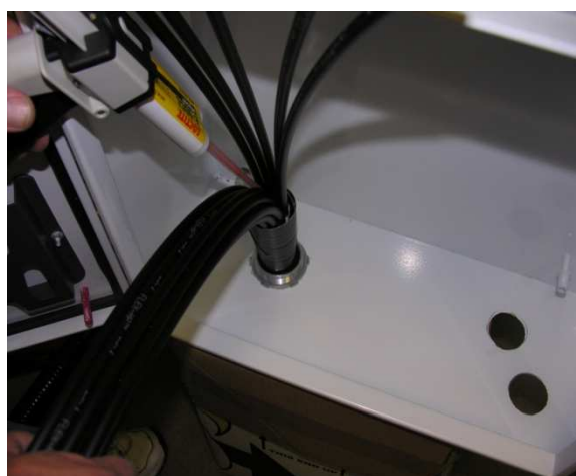

Figure 17
13.3 Work in an logical back-to-front organized manner. Separate the five (5) rear outer tubes and carefully pull remaining tubes forward. Inject epoxy sealant between and on either side of these five (5) rear tubes. **See Fig. 17.**